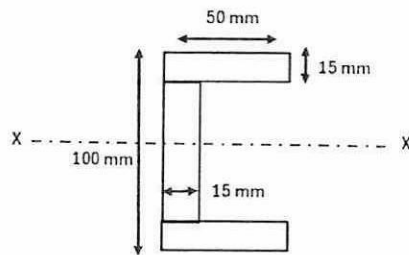

Figure Q3.2
- (c) Calculate the centre of gravity of a channel section as shown in **Figure Q3.2**. State the location of its neutral axis location from the x-axis.